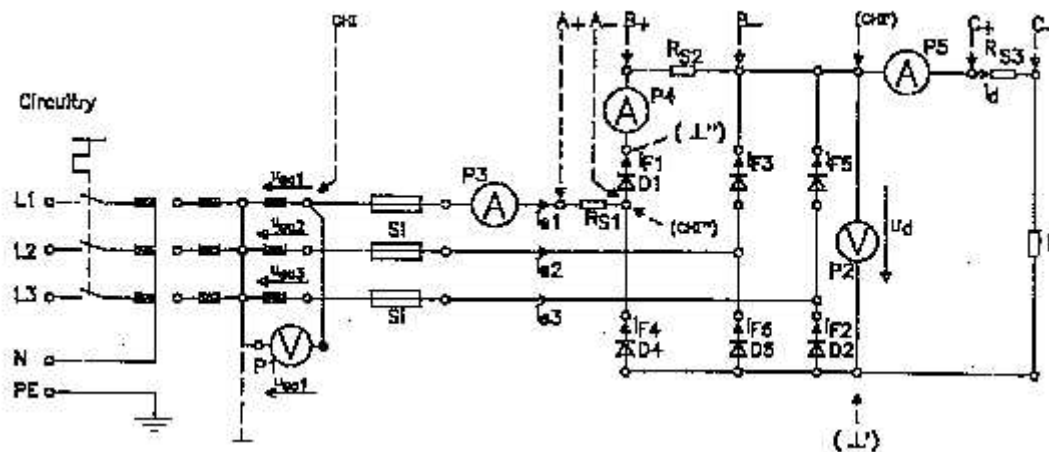

Figure 3. Two pulse bridge rectifier with ohmic load of 100
3. Connect the power circuit as shown in Figure 3, while using the supply voltage of 90V and a load resistance of 100 .
1. Connect the circuit as shown in Figure 3 for a load resistance of 100